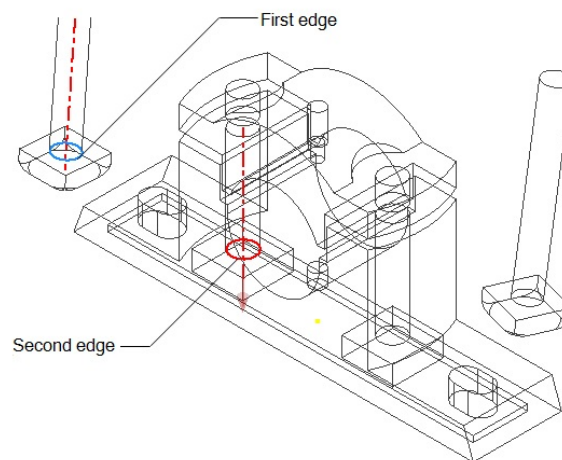

Figure 9-88 *Selecting the edges to apply the constraint*
3. Select the circular edge on the top face of the base square feature of the Bolt as the first face to apply the constraint, refer to Figure 9-88.
4. Next, select the circular edge on the top face of the square cut of the bottom face of the Casting, see Figure 9-88. Choose the **Apply** button to apply the constraint.